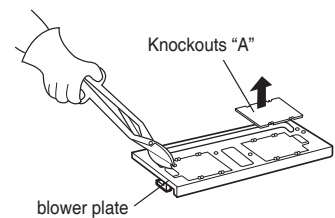

Figure 22
5. Use side cutter or tin snips to cut and remove knockouts "A" from blower plate. Discard knockouts. Be careful not to distort the plate. See Figure 22.